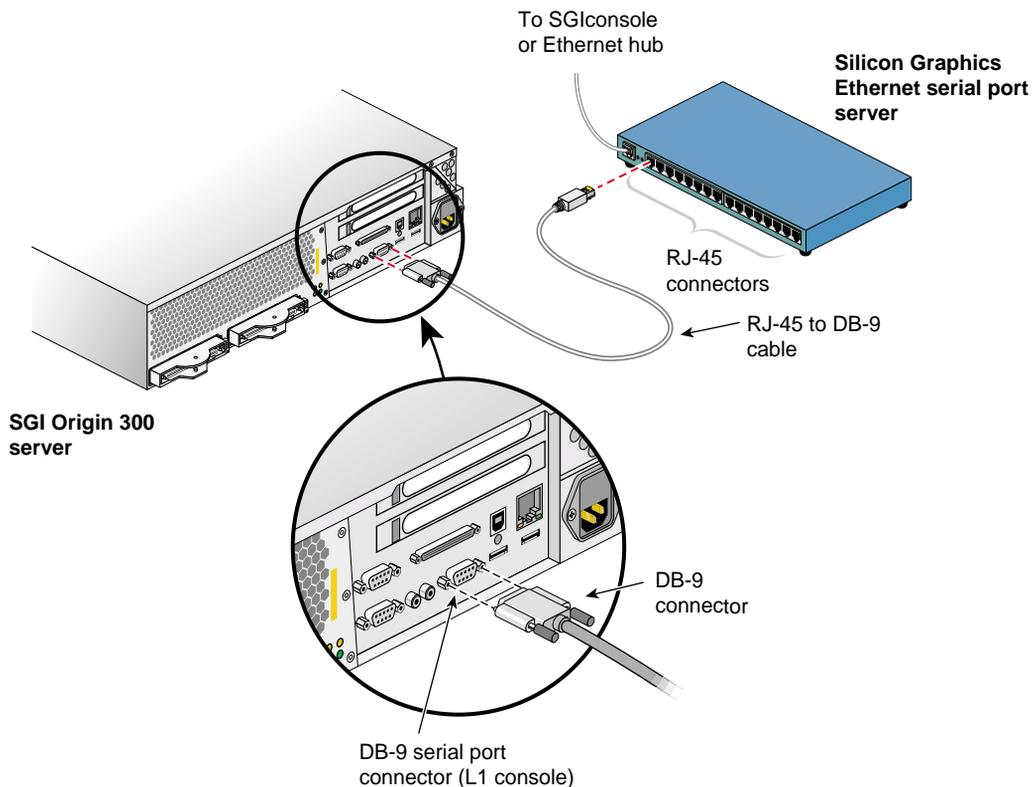

Figure 5-7 Connecting the Origin 300 Server Serial Port Connector to the Serial Port Server
6. Connect the RJ-45 connector end of the RJ-45 to DB-9 cable to one of the RJ-45 serial jacks on the Silicon Graphics EL-16 serial port server. Connect the DB-9 connector to the Origin 300 server's serial port jack labeled "Console." See Figure 5-7.